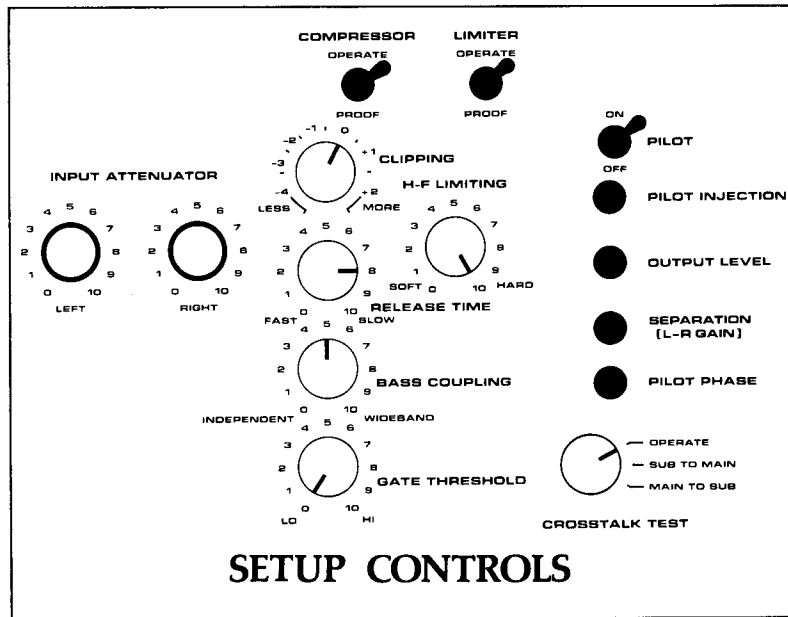

Fig. 4-5: Setup Controls
- a) Adjust OPTIMOD-FM controls according to Fig. 4-5. DO NOT adjust the OUTPUT ATTEN and INPUT ATTEN controls at this time. If you have a dual-chassis system, DO NOT READJUST THE TRANSMITTER CHASSIS INPUT ATTEN CONTROLS UNDER ANY CIRCUMSTANCES!